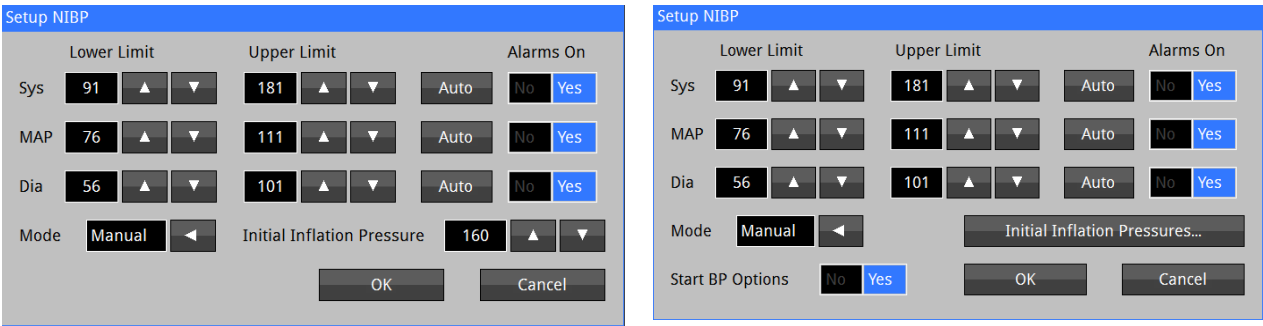

Figure 29: NIBP Setup Screens
To access the Setup NIBP screen, touch anywhere within the NIBP numeric area to open the Setup NIBP window (refer to Figure 29).
- Start BP Options (No, Yes) determines the Initial Inflation Pressure(s) to start a blood pressure measurement (refer to Figure 29 for more details);